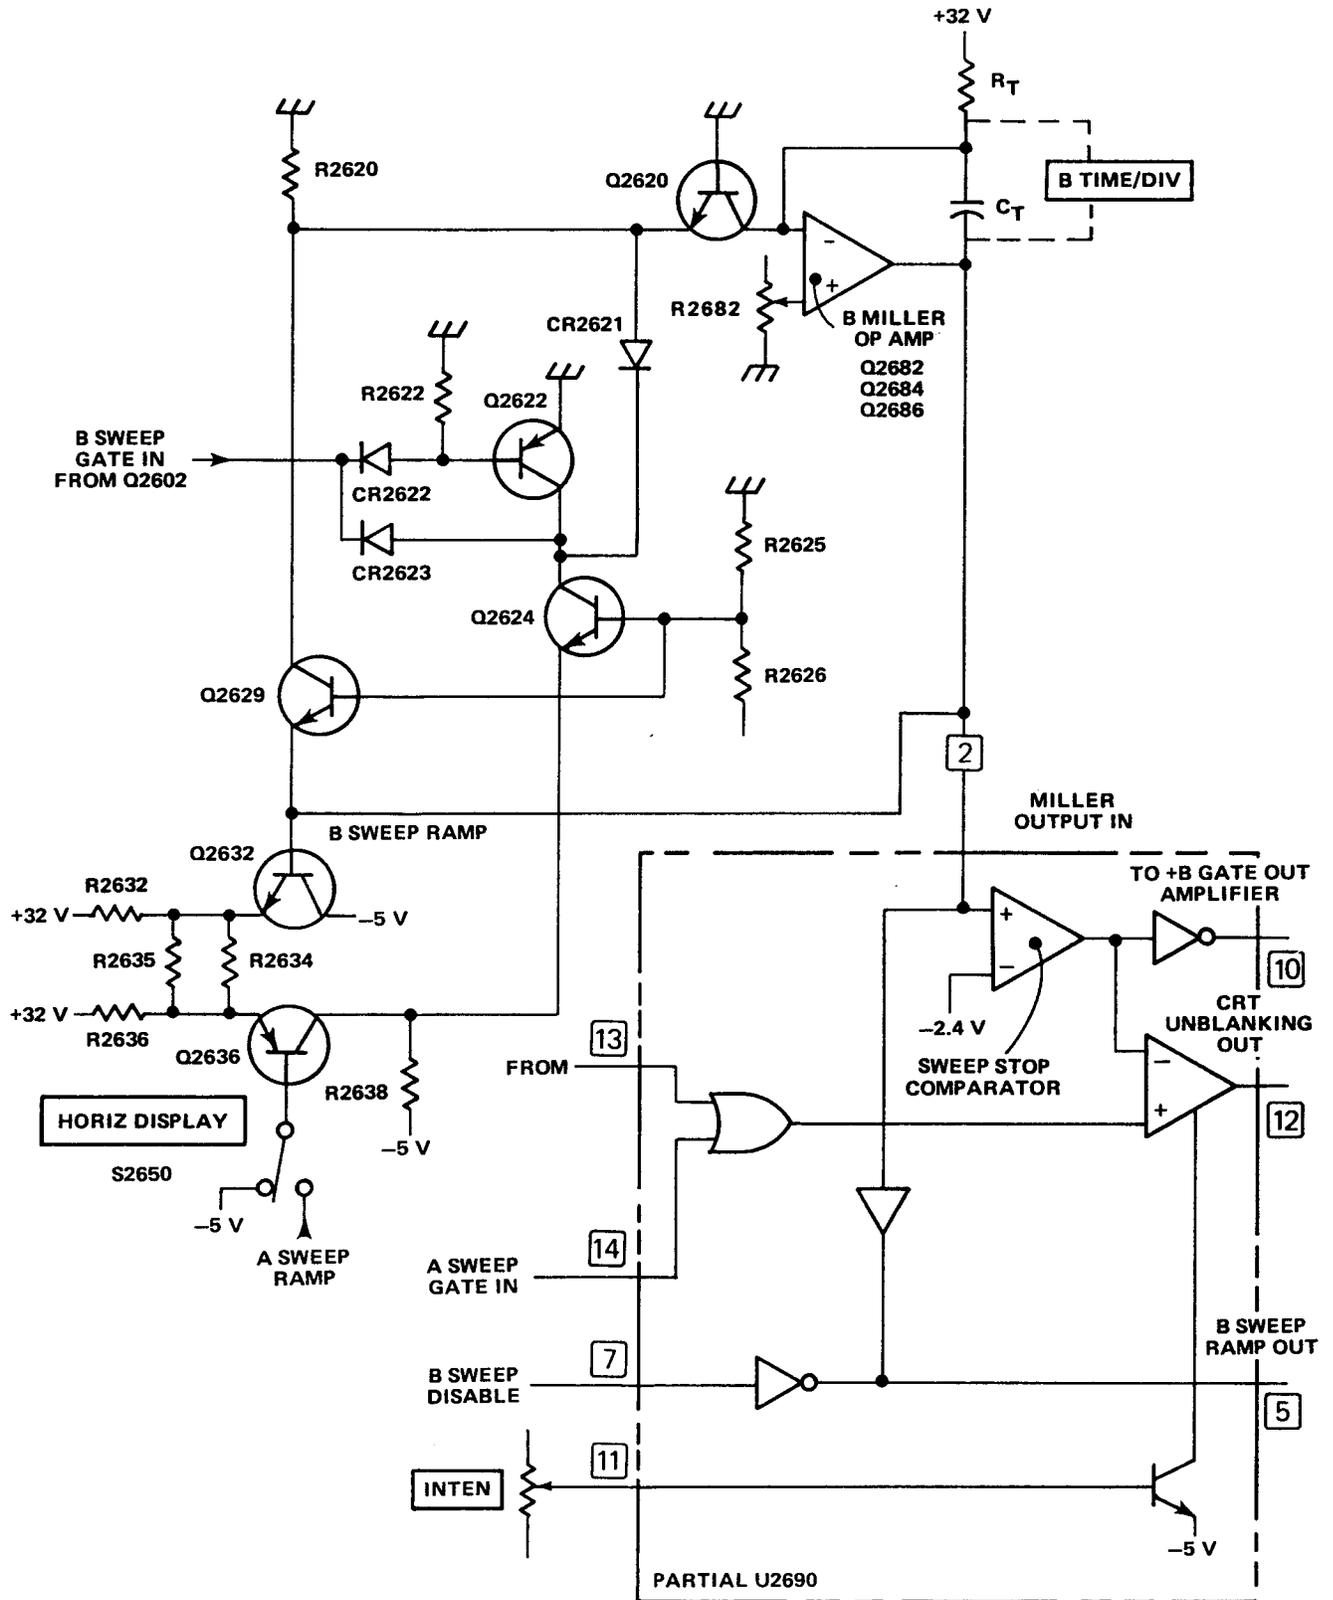
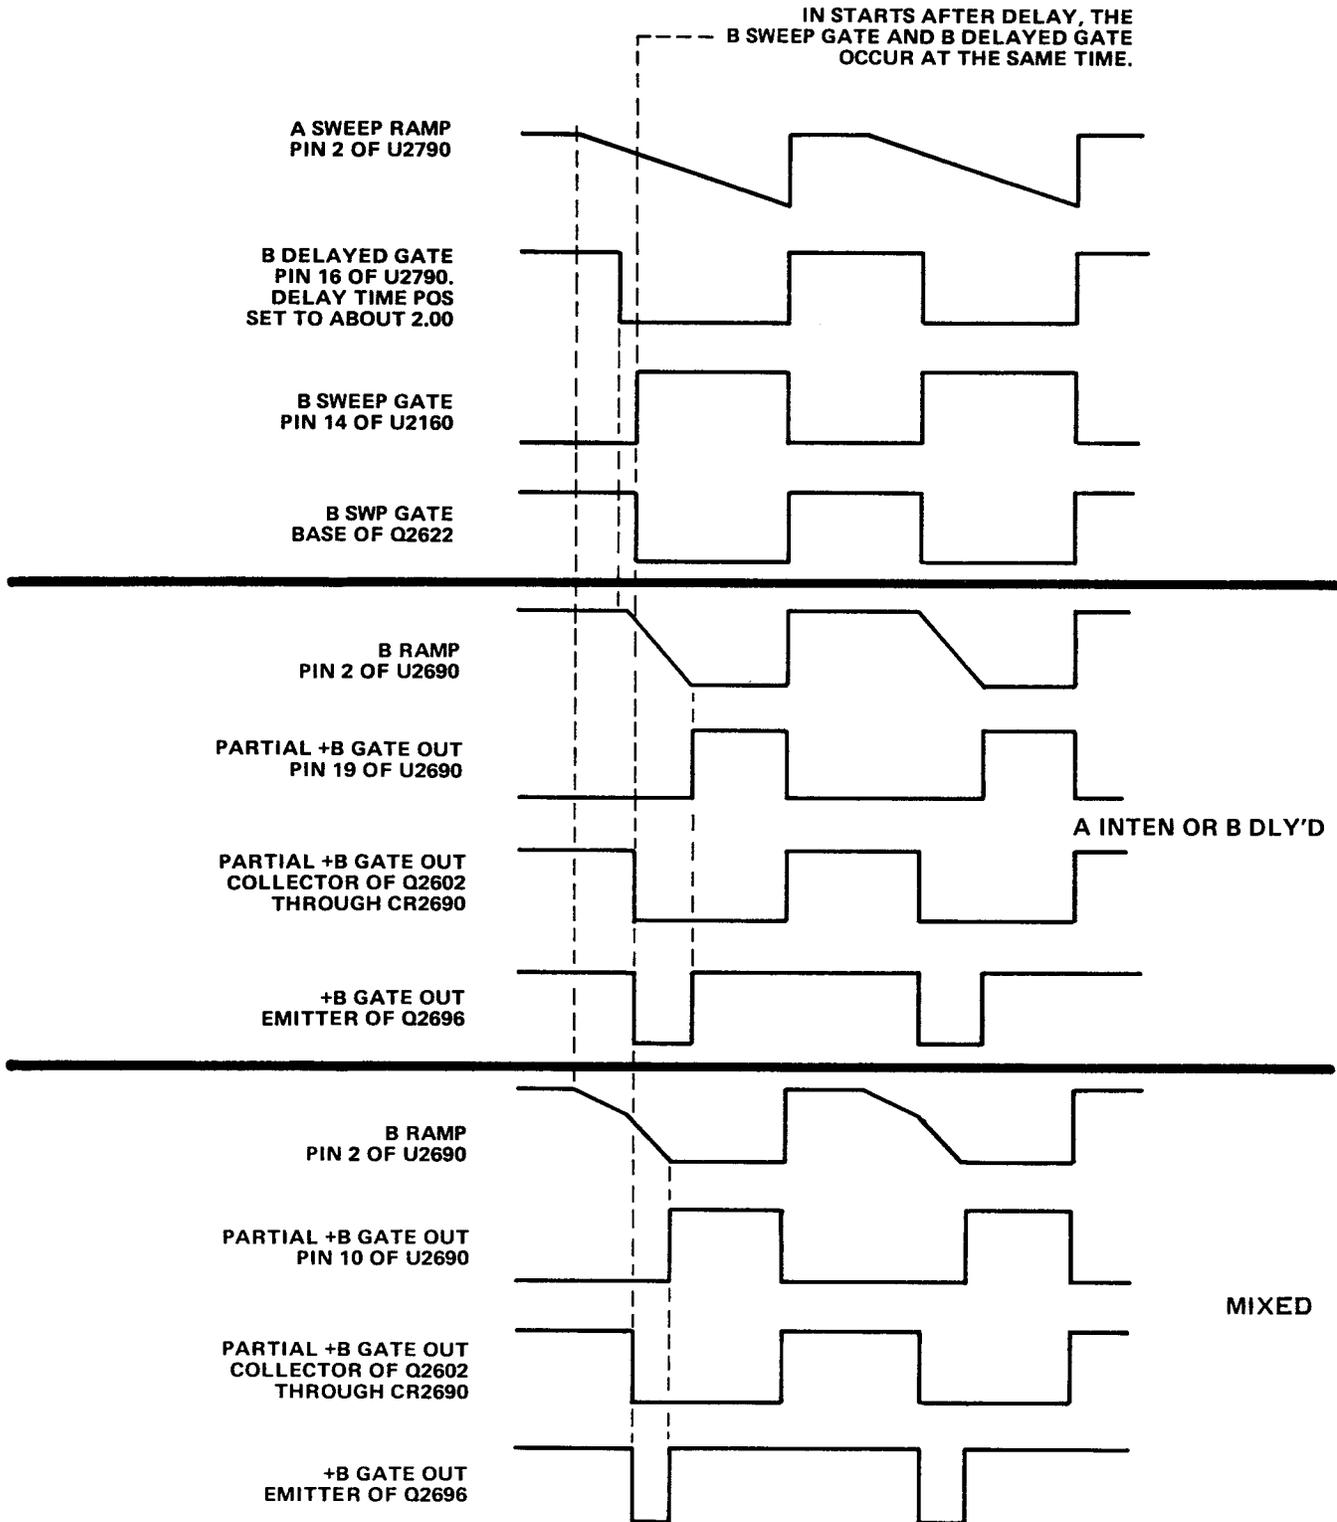

Figure 4-8. Simplified diagram of the B sweep generator.
Figure 4-9. Waveforms produced during B sweep generation
(5) B Sweep Generator. The B Sweep Generator consists of U2690 and associated circuitry. The B Sweep Generator integrated circuit (U2690) is the same as the A Sweep Generator integrated circuit (U2790). Both are discussed in paragraph 4-3. b. (4) (a). Figure 4-8 shows a simplified diagram of the B Sweep Generator. Figure 4-9 shows the waveforms produced during B sweep generation. Figure FO-6 shows a complete schematic diagram of the B Sweep Generator.
(a) Sequence of Events During B Sweep Generation in B DLY'D or A INTEN Mode. Refer to Figure 4-8 and Figure 4-9 during the following discussion. Figure FO-6 shows a complete schematic diagram of the B Sweep Generator.
(8) +B GATE OUT Buffer. The +B GATE OUT Buffer consists of Q2696 and associated circuitry. The input to the buffer circuit is obtained from three sources; the partial B Gate signal from pin 10 of U2690, the B sweep gate from the collector of Q2602 which is part of the B trigger amplifier, and the delayed gate signal from pin 16 of U2790. Figure 4-9 shows the time relationship of the two signals. The output of the Buffer is LO only when both input signals are LO. All three input signals are LO at the same time only while a B ramp is being generated. The output of the Buffer is supplied to the +B GATE OUT Amplifier in the Main Module.